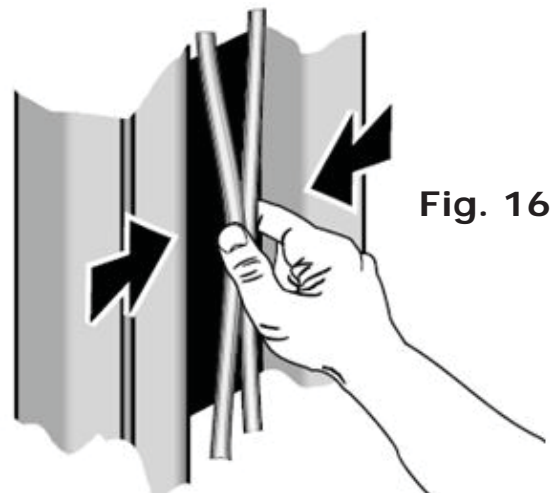

Fig. 16
- Raise the carriages to check the equalizer cable tension by grasping the adjacent cables between the thumb and the forefinger so that you can just pull the cables together (ref. fig. 16);